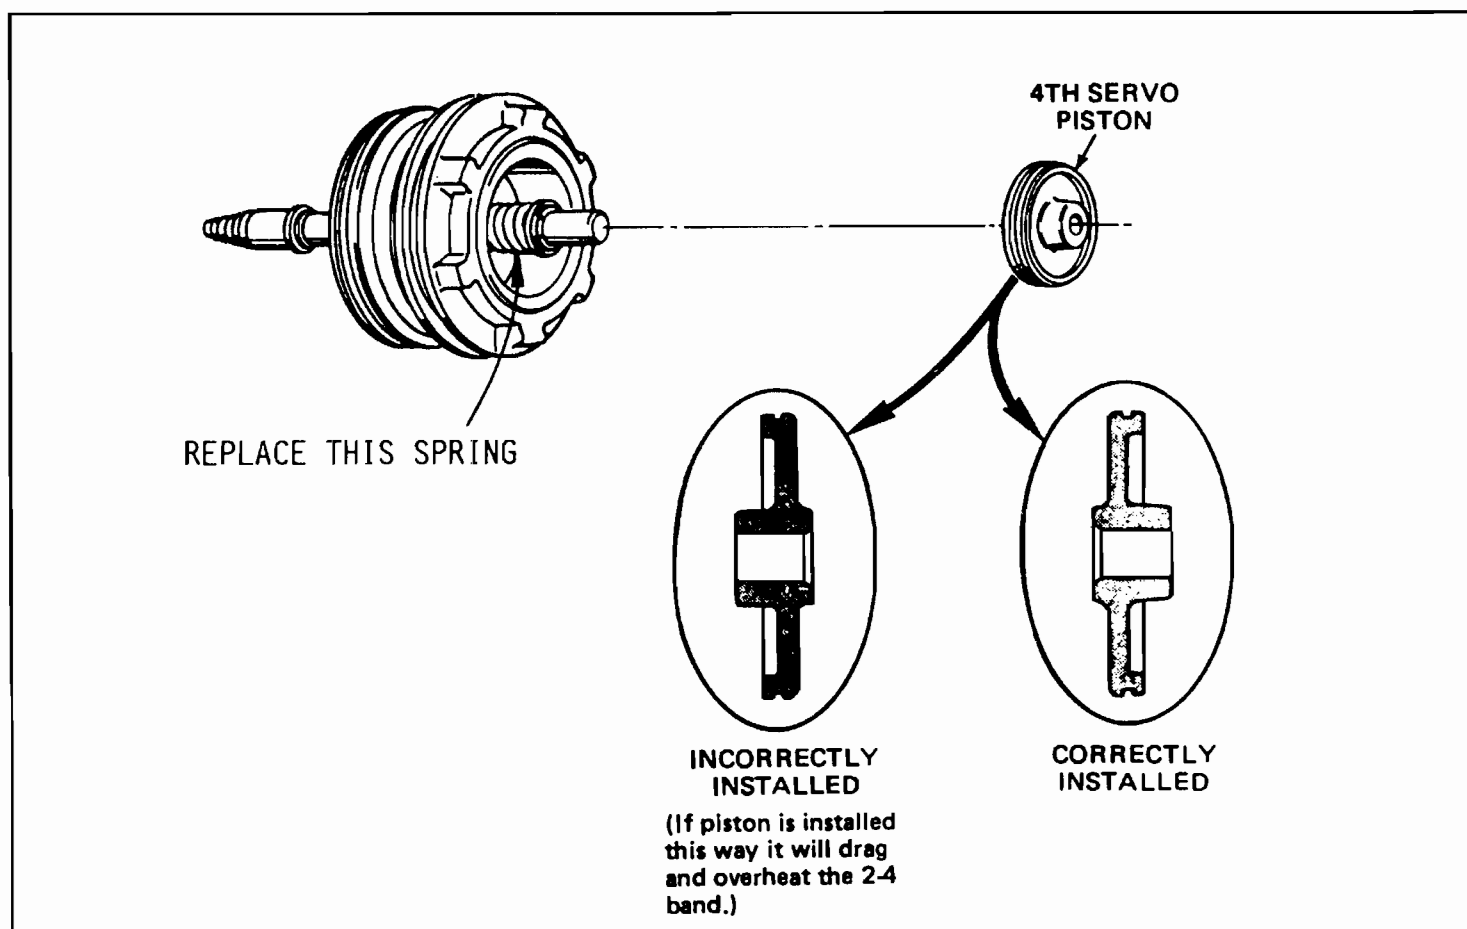

Figure 35
**CORRECTION:** Remove and discard the OEM spring from the servo apply pin. Replace the 4th apply piston return spring with part number K004, available through Shift Technology Products. Reinstall washer and "E" clip, as shown in Figure 35.